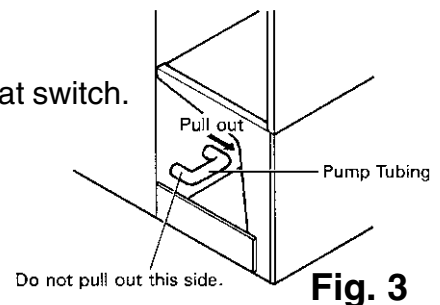

Fig. 3
- 4) Drain the water tank by removing one end of the pump tubing. (See Fig. 3.) Refit the hose back into position.